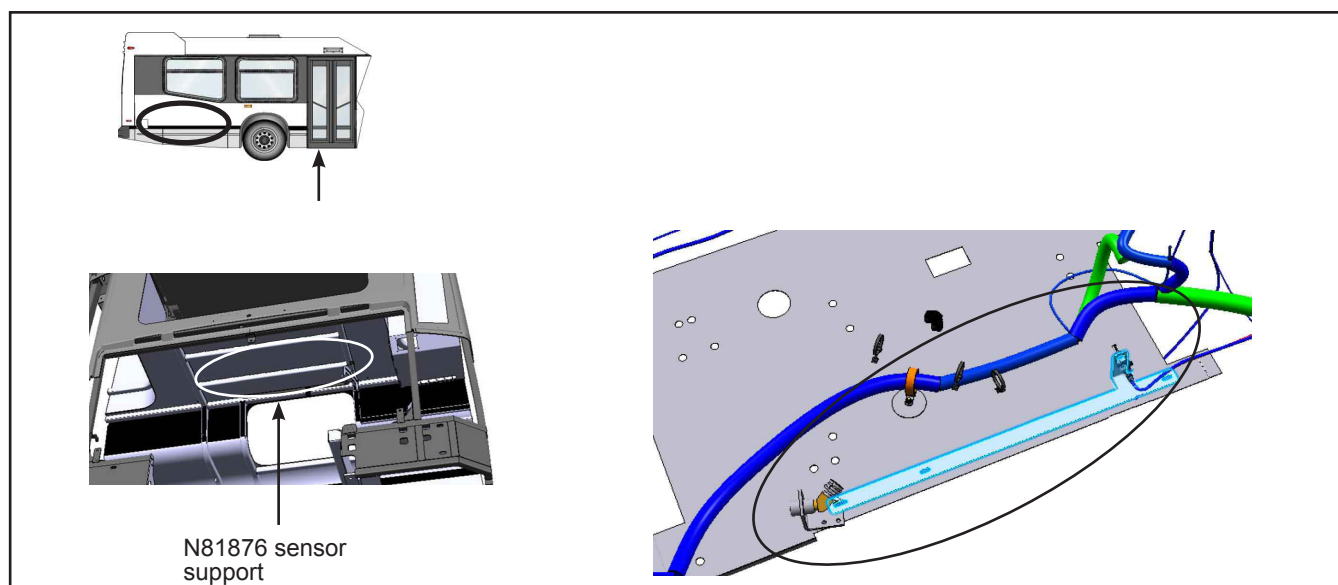

Figure 19 - Locate the Engine Compartment Ceiling
- 1.24. Locate the two threaded studs to fasten the sensor support. See Figure 19.